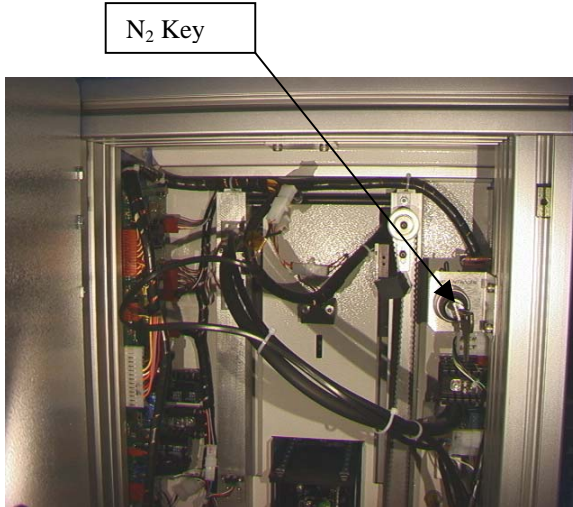

Figure 2a
- i. The TF 1500 comes configured for internal or external air. Select air source; internal pump or external N2. (Figure 2a & 2b)